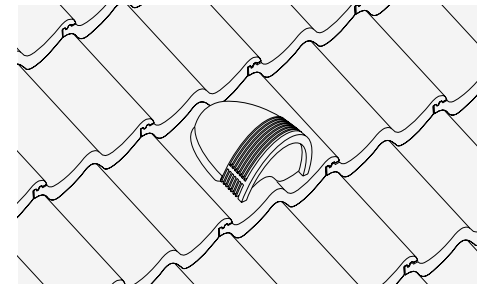

Fig. 3 – Continue tiling
- 9 Lay adjacent tiling in normal manner (Fig. 3).